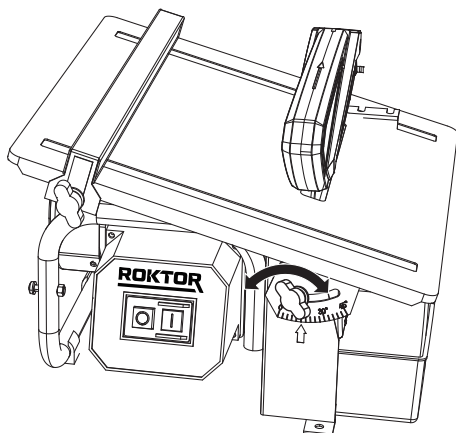

Figure 11
6. CUTTING WITH THE TABLE AT AN ANGLE (SEE FIG. 11)